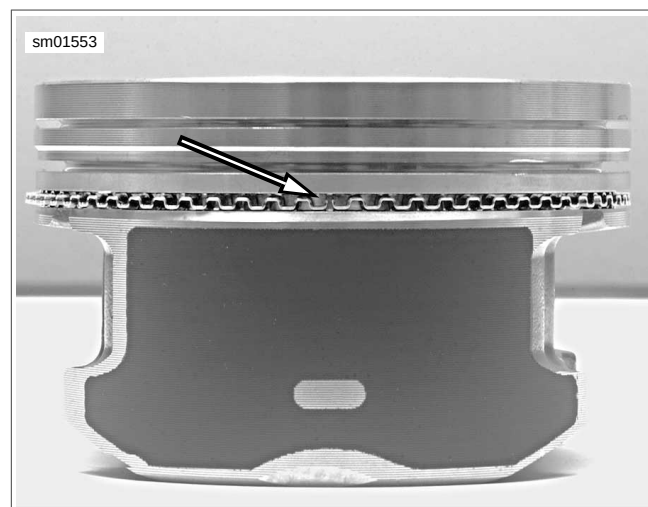

Figure 3-142. Installing Oil Control Ring Expander Spring (typical; XL model shown)
3. See Figure 3-142. Install oil control ring expander spring. Make sure ends of spring point upward. Spiral bottom oil control ring into space in ring groove below expander spring. Position oil control ring gap 90° from gap in expander spring. Spiral top oil control ring into space in ring groove above expander spring. Position oil control ring gap 180° from gap in bottom oil control ring